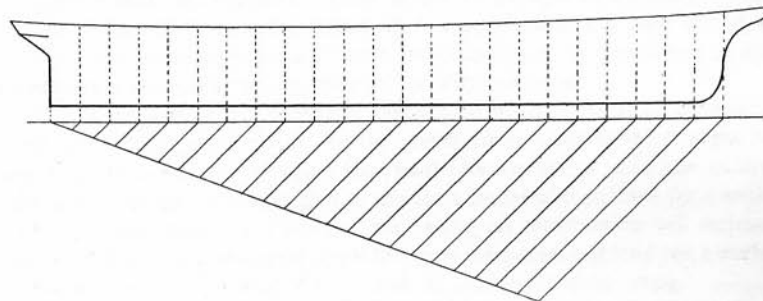

Fig. 37. Method of modifying the scale
*Changing the scale.* Sometimes you have a set of plans but not to the scale you want. You want a model 18 in. long but the profile plan is 13½ in. long. Here's how! Referring to Fig. 37, draw a line parallel to the keel. Mark off (by perpendiculars) the length of the ship. From one end of the line draw a convenient line and divide into eighteen equal parts. This new line is a scale on which you can measure any part of your model. Transfer your drawing dimension to the upper line and read off your model size from the lower line. The lower line will be in parts equalling inches (eighteen of them). Divide one of the lower parts into fractions of an inch for your convenience.